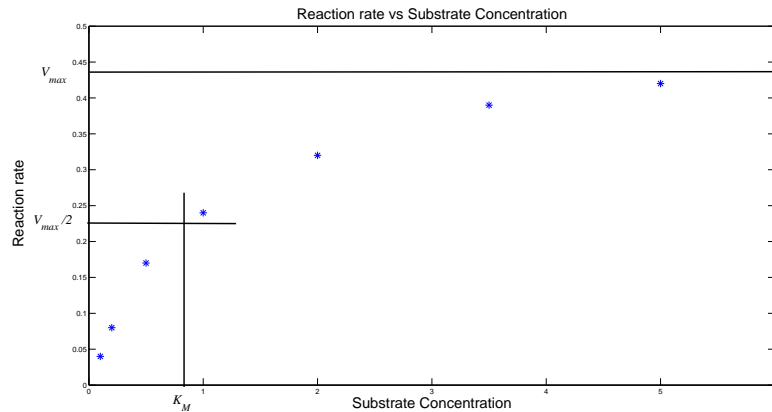

Figure 2.2 Graphical estimation of V_{max} and K_M
- a. The plot indicates that the relationship between the reaction rate and the substrate concentration goes to saturation in a M-M-like behavior, see Fig.2.2. V_{max} and K_m are estimated as shown in the plot.